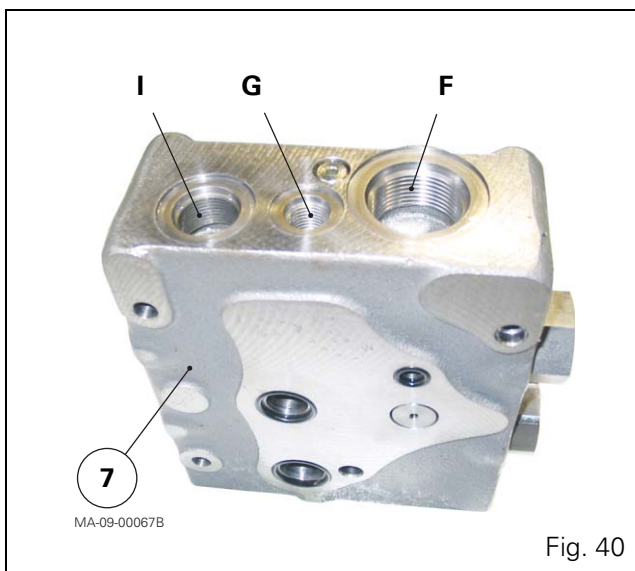

Fig. 40
Identification of 110 l/min or 150 l/min Load Sensing ports on the single priority block (7) (Fig. 40 to Fig. 44)
- B High pressure (HP) supply from variable displacement pump (drilled port on the mating face of priority block and cover plate)